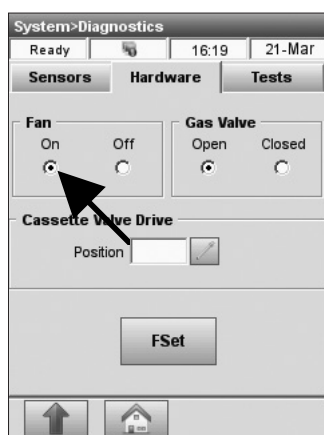

Fig. 8-8 Cooling Fan
- Press the **<On>** button under **<Fan>** to start the test (Fig. 8-8).